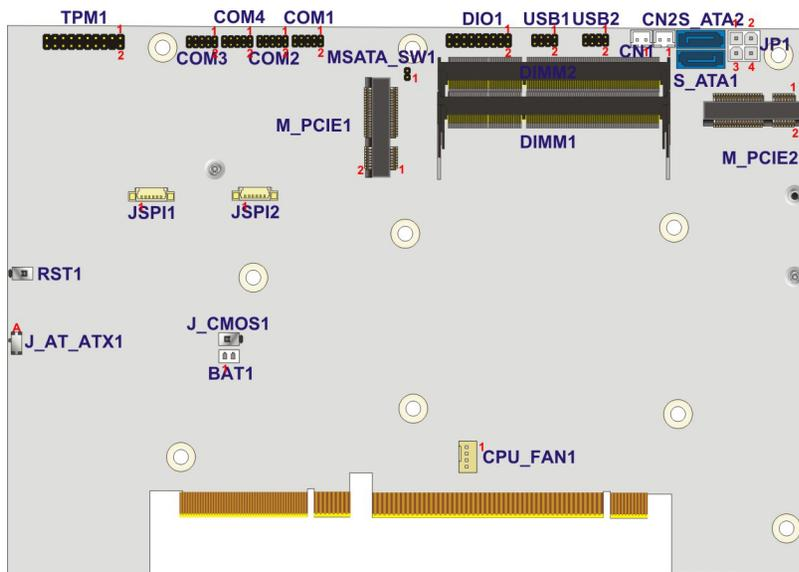

Figure 4-1: System Motherboard (Front)
Step 6: Connect the system fan cable to the **CPU_FAN1** connector on the motherboard of TANK-870e-H110 (**Figure 4-1**).